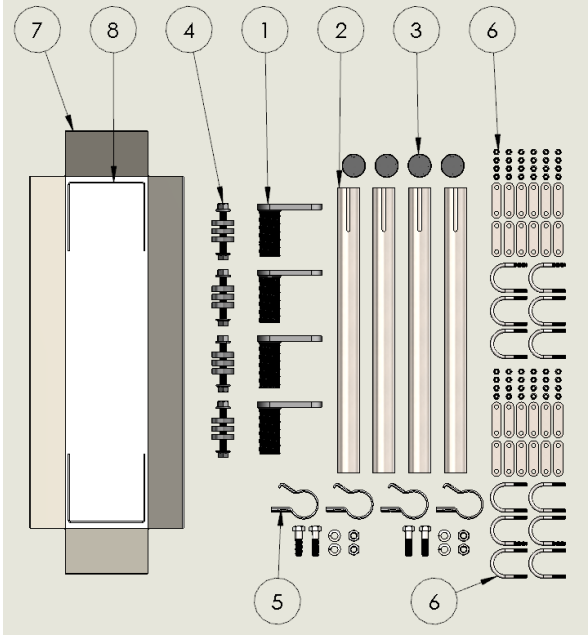

Figure 1
- B. Reference Table 1 and Figure 1 above to identify the parts and confirm quantities.